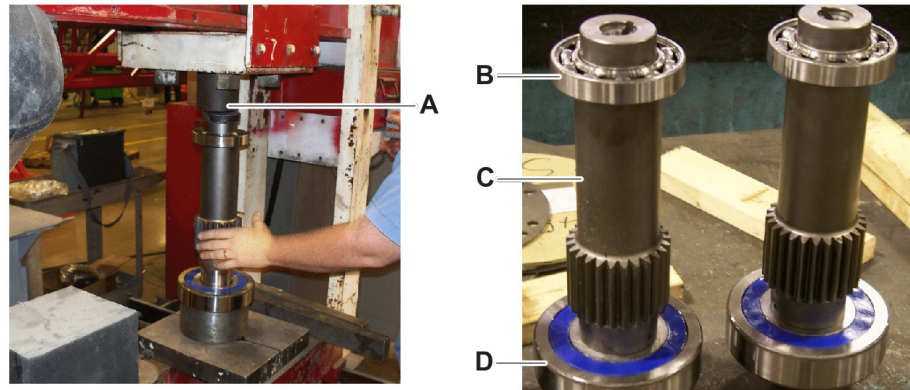

Figure 4
7. Install the upper and the lower ball bearings (Figure 4, items B and D) onto the input pinions (item C) with a hydraulic press (item A).